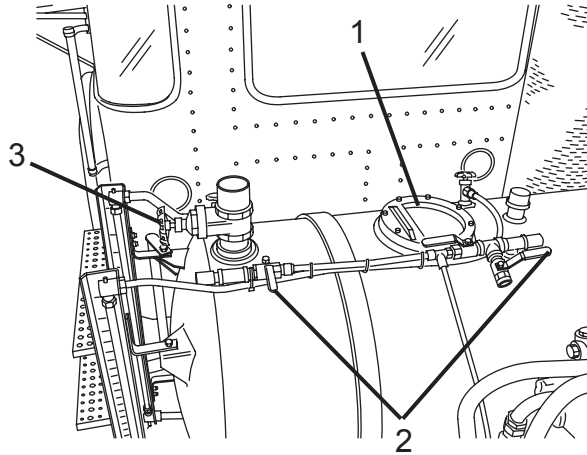

Figure 161
6. Check flopper valve (Figure 161, Item 1) for free movement, and make sure it seats properly.
7. Check valves (Figure 161, Items 2 and 3) to make sure they move freely.